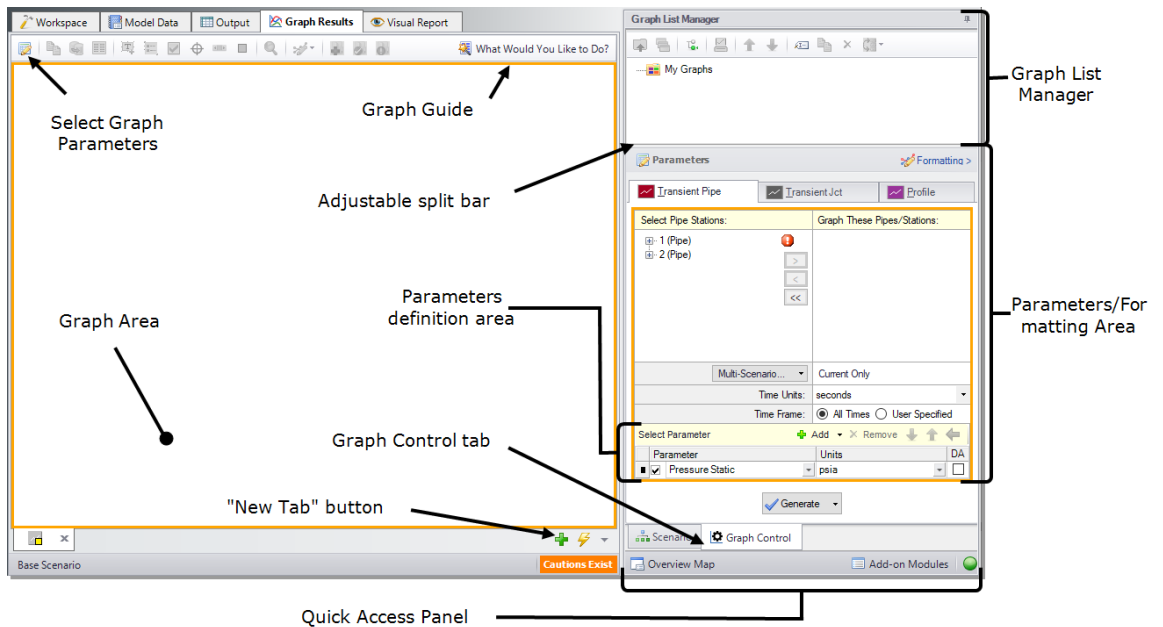

Figure 2.27 The Graph Results window and Quick Access Panel
Figure 2.27 shows the Graph Results window with the Graph Control tab selected on the Quick Access Panel.
- **Access the graphing parameters by opening the Graph Control tab on the Quick Access Panel (this tab is automatically selected when the Graph Results window is opened).** Because we are interested in seeing how the pressures and flows in specific pipe sections respond over time, ensure that the Transient Pipe tab is selected in the Parameters/Formatting area on the Quick Access Panel. Alternatively, you can open the Select Graph Parameters window by clicking on the corresponding icon on the Graph Results Toolbar (Figure 2.27).
- **Create a new graph tab** by clicking the "New Tab" button which is the green plus icon located on the bottom right, immediately below the graph area (Figure 2.27).